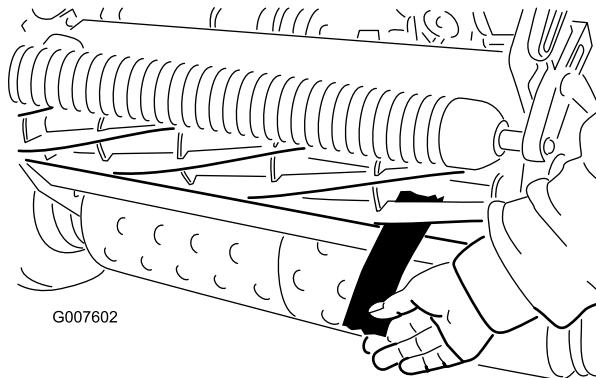

Figure 40
- 4. On one end of the front side of the reel, insert a long strip of newspaper between the reel and bedknife (Figure 40). While slowly rotating the reel forward,
6. After the adjustment is accomplished, check to see if the reel can pinch paper when inserted from the front and cut paper when inserted at a right angle to the bedknife (Figure 40). It should be possible to cut paper with minimum contact between the bedknife and the reel blades. Should excessive reel drag be evident (more than 7 inch-lb (0.79 N·m), either backlap or grind the cutting unit to achieve the sharp edges needed for precision cutting; refer to the Toro reel sharpening manual.